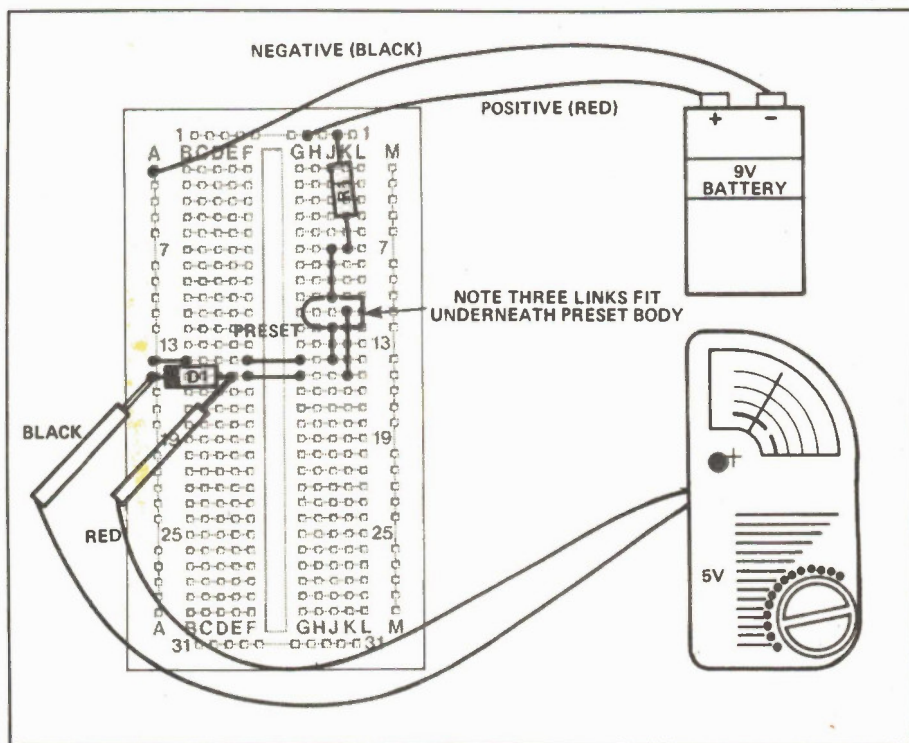

Fig. 7 The breadboard layout for the circuit in Figure 10.
1) Set up the components on the breadboard to measure only the voltage across the diode. The breadboard layout is given in Figure 7. Before you connect your battery to the circuit, make sure the wiper of the preset is turned fully anti-clockwise.